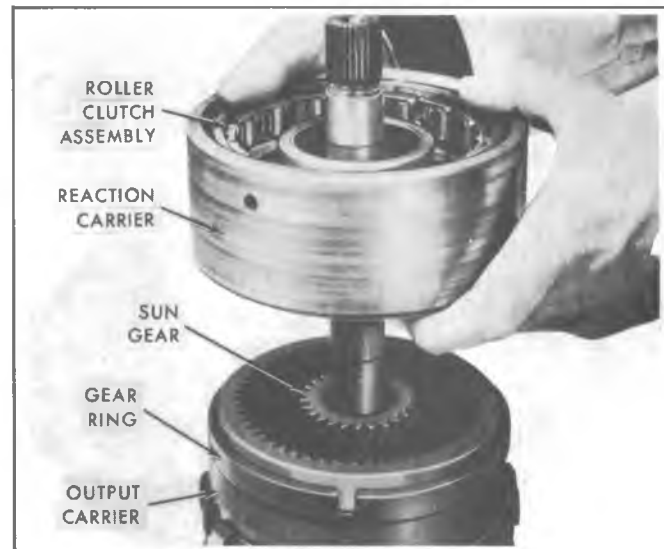

Figure 400-48 Roller Clutch Assembly
15. Remove reaction carrier and roller clutch assembly from output carrier, **Figure 400-48**, and remove roller clutch assembly from reaction carrier.